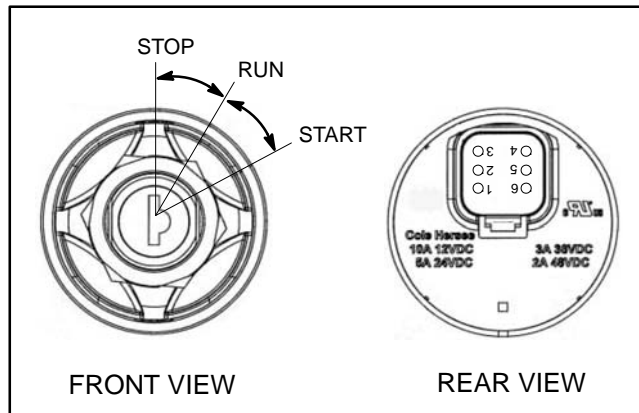

Figure 36
The ignition (key) switch is located on the control panel and has three (3) positions: STOP, RUN and START (Fig. 36). The Toro Electronic Controller (TEC) monitors the operation of the ignition switch.
5. The ignition switch terminals are identified in Figure 36 and the circuitry of the switch is shown in the chart in Figure 37. With the use of a multimeter (ohms setting), the switch functions can be tested to determine whether continuity exists between the various terminals for each switch position. Verify continuity between switch terminals.